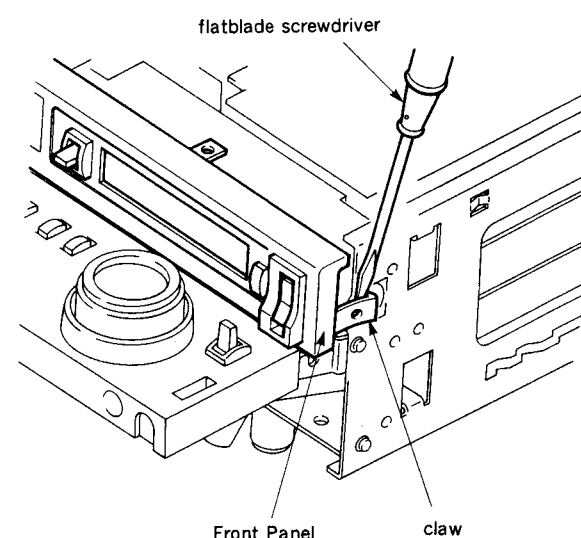

Fig. 1
2. Remove the Front Panel, while releasing the each claw of the left and right side. (fig.1)